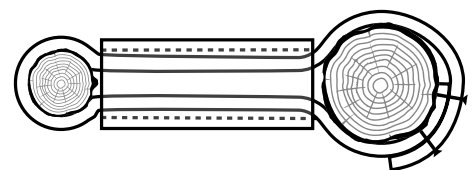

Fig 16
3) We suggest making the top strapping assembly first by using 38 mm (1 $\frac{3}{4}$  inches) Easy Flex Strapping (fig17) which will allow the top of the tree stem some slight flexibility to allow the tree to develop its own resistance to wind loadings and reduce the risk of wind damage to the stem once the tying system has been removed. This top strapping needs to be positioned about 25 mm (1 inch) below the top of the fixing stakes and we need to form a figure '8' shape between each of the two stakes and the tree separately by passing the Easy Flex strapping around the tree then both ends of the strap through a Jumbo Spacer (fig18) cut to the required length which is the distance between the stake and the tree less 100 mm (4 inches). We then continue with the straps out of the Spacer and then around the outside of the tree stake and fix the strap to the outside of the stake using two flat head galvanised clout or roofing nails making sure they both go through both ends of the strap and through one of the pre formed and reinforced nail holes (fig16). Repeat this process for the remaining further two stakes top strapping position, again using the more flexible Easy Flex Strapping, making sure the tree is held firmly in position by these three straps once the top assembly has been completed. We can now complete the assembly repeating this process for the lower strapping at a height halfway between the top strapping level and ground level but using the 38 mm (1 $\frac{3}{4}$  inches) Easy Fix Strapping (fig12) product to provide a very stable lower stem to protect the root ball effectively.